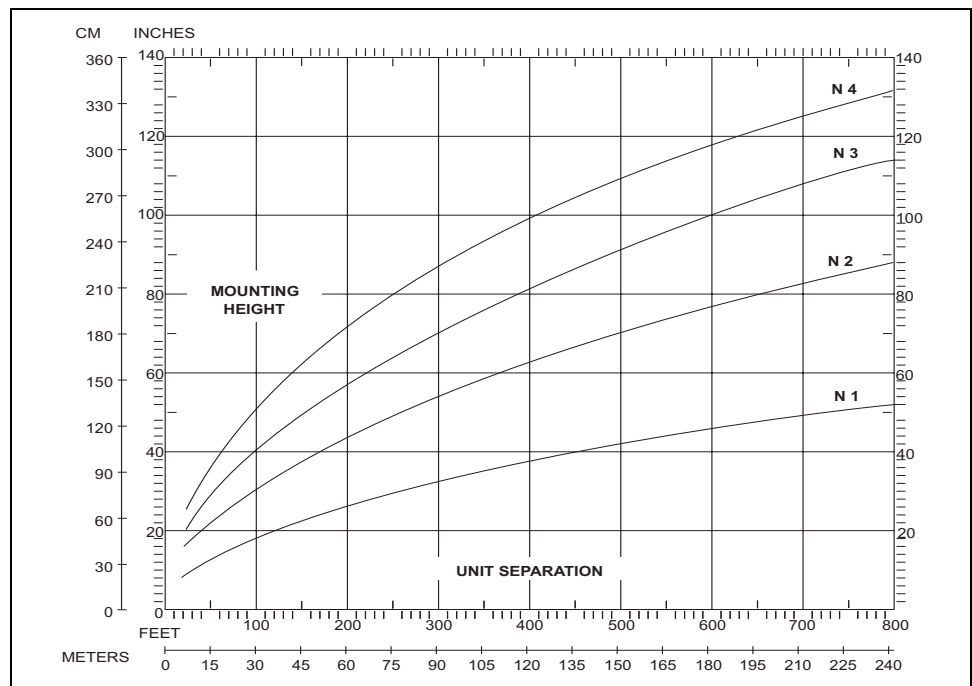
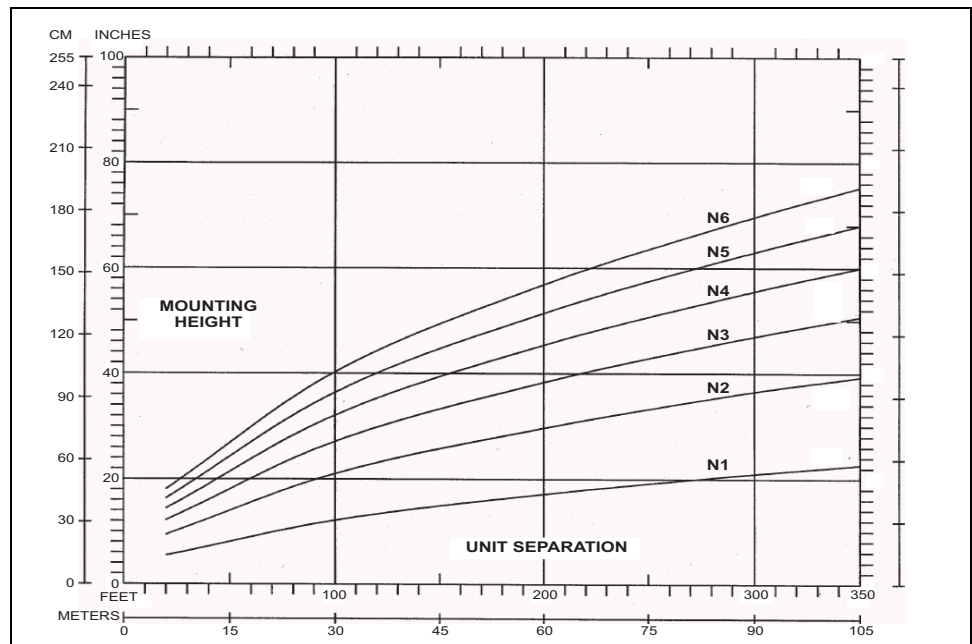

Figure a-10 X-band sensor (MPS-4100, Series 14000, Series 16000)
Figure a-11 K-band sensor (Series 24000)
Figure a-10 and Figure a-11 plot the calculated antenna height versus the separation distance relationship for constructive phasing for X-Band (MPS-4100, Microwave Series 14000, and Series 16000) and for K-Band (Microwave Series 24000) respectively. The calculation assumes that the two antennas (transmit and receive) are mounted at the same height above a relatively flat surface. The areas of constructive phasing are located on each nodal line, (i.e., N1, N2, N3, etc.) and below N1.
2. For the lower pair, select the mounting height of the center of the antenna from the Recommended mounting heights table. Adjust the height to ensure that the operating point is below N1 (see Figure a-10 or Figure a-11).
K-Band microwave sensors have better sensitivity to slow-moving intruders. However, they are more susceptible to nuisance alarms from rain and snow. The closely spaced nodal lines (see Figure a-11) for K-Band microwaves means that if the K-Band unit is used as the upper unit, it will be very difficult to ensure constructive phasing under all weather conditions.
*Ensure that the operating point (mounting height versus separation) is on a constructive nodal line, or below N1 (see Figure a-10 and Figure a-11).*